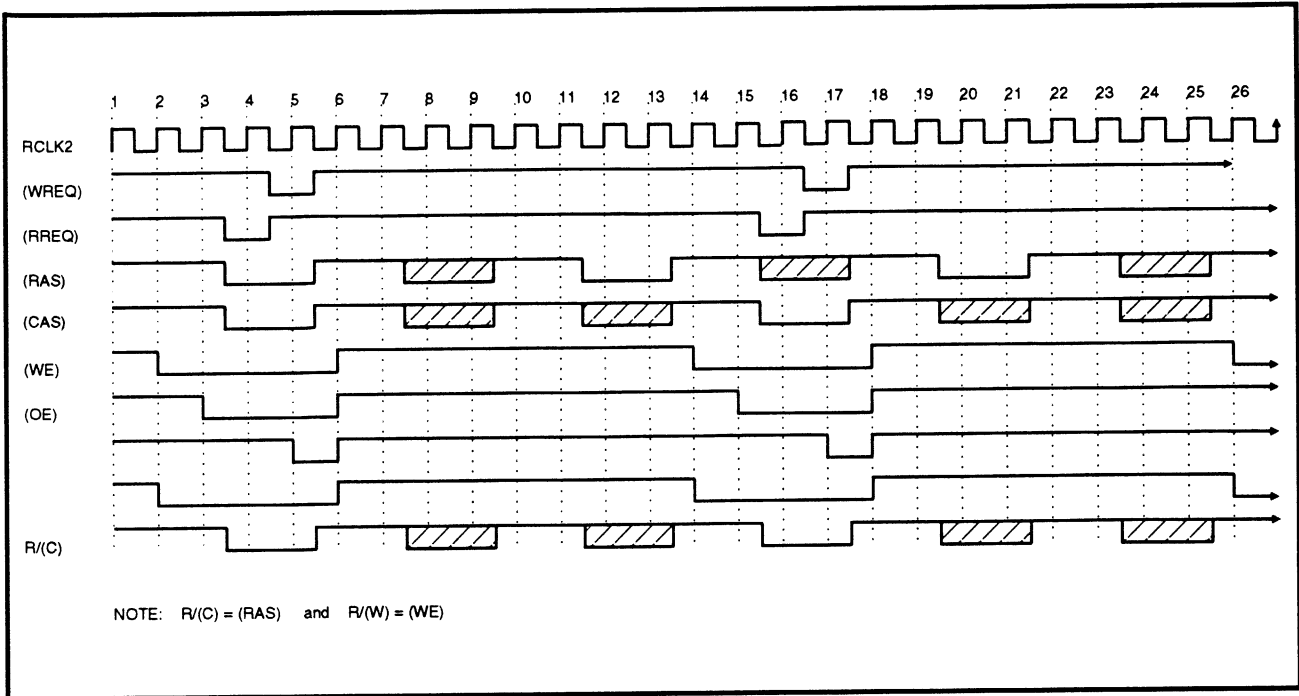

Fig. 2-27.
column address strobe, (WE) write enable, (OE) output enable, and (RDXFR) read transfer. (See Figs. 2-27 and 2-26.)